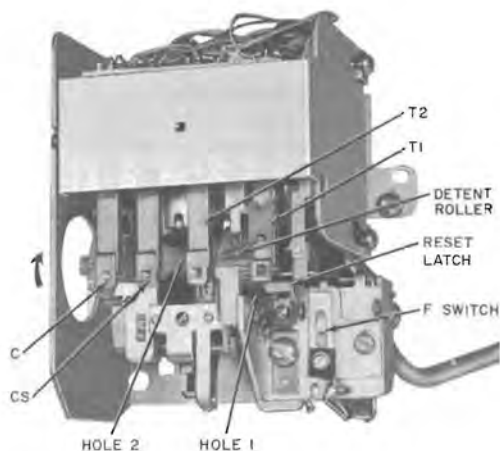

Fig. 4—Checking Totalizer Rate
Use extreme care when checking initial rate or resetting totalizer. Avoid damaging pawl and spring pile-ups. Do not attempt to turn totalizer cam shaft in direction opposite to that shown in Fig. 4.
- (1) Remove 1A10A chute-totalizer per 2.08.
- (2) Loosen screw and remove transparent dust cover.
- (3) Rotate shaft in the proper direction (Fig. 4) until detent roller on inside ratchet wheel is positioned between the two black marks. This occurs at the same time T2 rests in depression in shaft. This position is called **home** position.
- (4) Slowly rotate shaft in proper direction, and count the steps until T1 springs operate.
- (5) Each step rotated from **home position** represents a 5-cent rate as shown in Table C.
- (1) Rotate shaft in proper direction (Fig. 4) until it is in home position as described in 2.10(3).